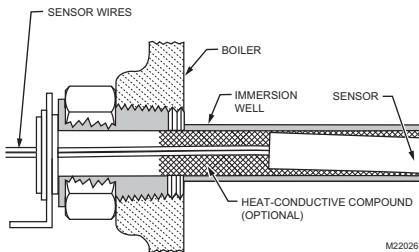

Fig. 4. Replacement sensor installation.
- Make sure sensor is fully seated to bottom of well. (See Fig. 4). Use a small pencil to measure depth of sensor in well, if necessary.